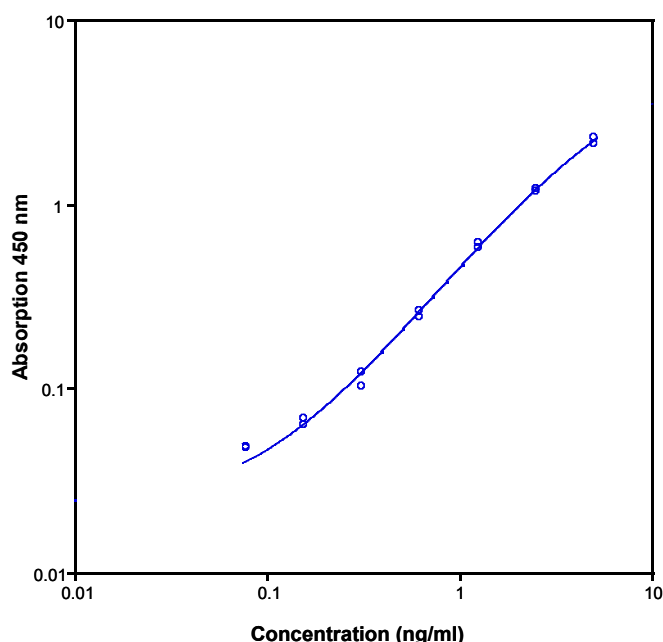

Fig. 8 Representative standard curve for human Cytochrome C ELISA. Human Cytochrome C was diluted in serial 2-fold steps in Assay Buffer (1x).
- A representative standard curve is shown in Figure 8.